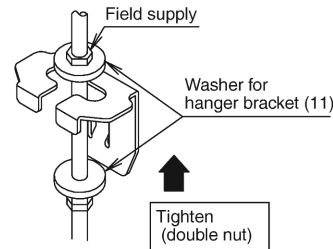

Fig. 6
- (1) Install the indoor unit temporarily.
- Fix the hanger to the suspension bolt. Make sure to securely fix the hanger with the nut and the washer for hanger bracket (11) from the upper and lower side. (Refer to Fig. 6)